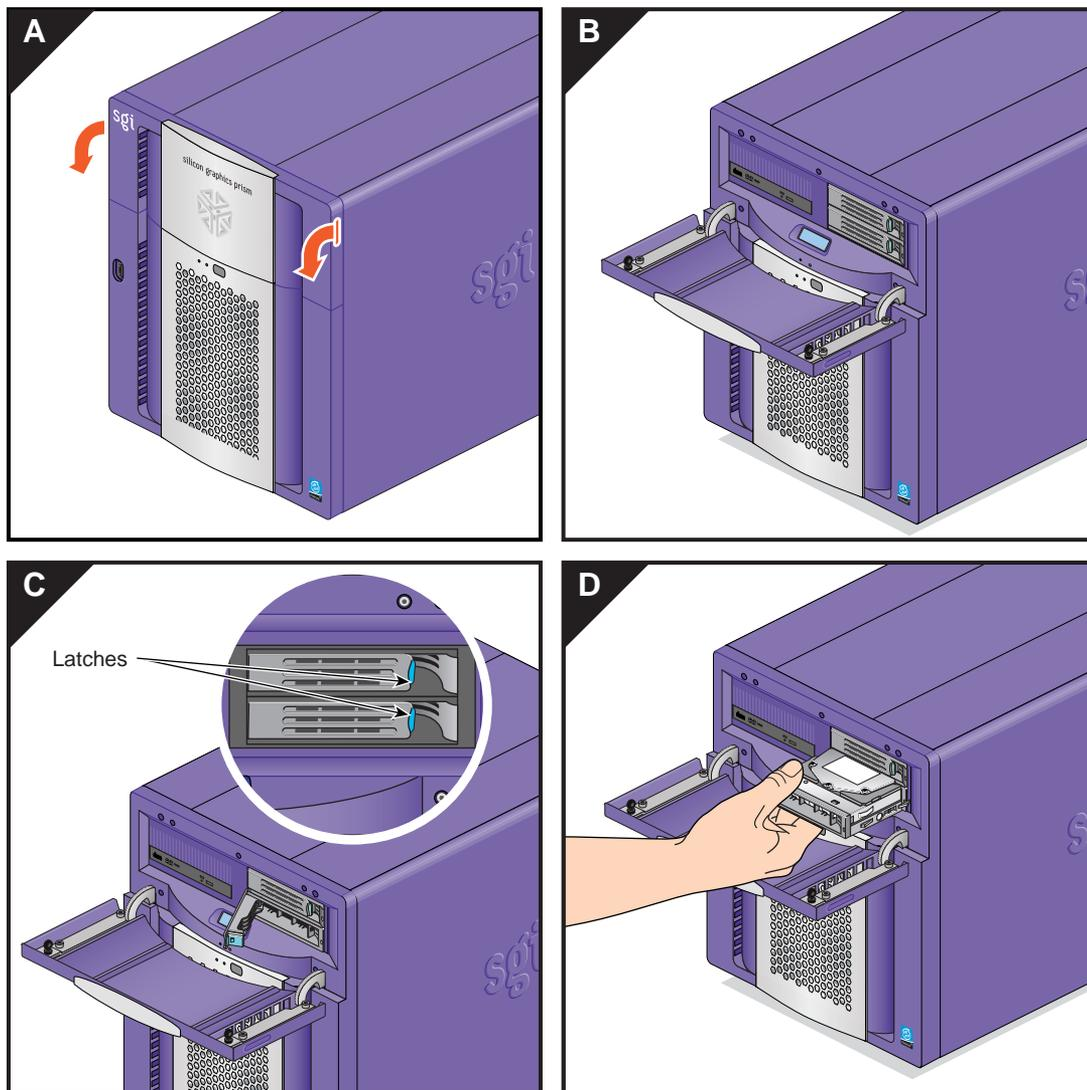

Figure 3-12 Installing an Internal Hard Disk Drive
2. Move the handle on the drive you are installing to the fully open position. Then position the drive sled so that it engages the drive bay guide rails (see Figure 3-12).
3. Gently push the drive sled into the drive bay until the locking handle engages with left side of the bay opening. Then swing the locking handle towards the enclosure until it latches (see Figure 3-12).
2. Press in on the right side of the locking handle; the handle will unlatch from the enclosure (see Figure 3-12).
3. Swing the locking handle away from the enclosure until it is fully open. Then carefully slide the drive sled out of the drive bay. Do not pull the drive sled out by the locking handle (see Figure 3-12).